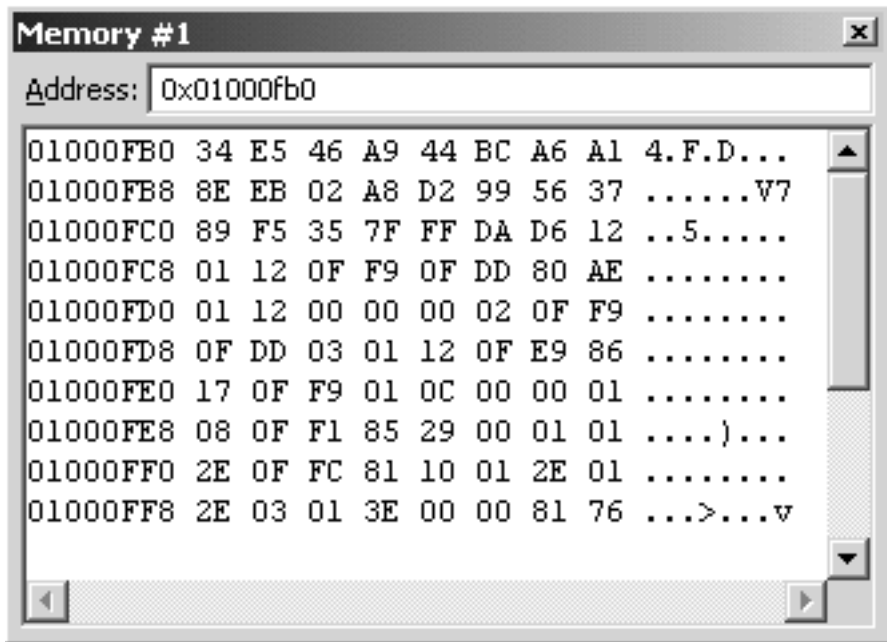

Figure 7-7 Memory Window
2. *Examine Memory*—click the address box in one of the Memory windows, and change it to 0x01000FB0. A Memory window presents a fixed display of 80 characters, and it will not display any characters if one of them is in a reserved section of the memory space. Because a reserved section starts at 0x01001000, the address 0x01000FF9 cannot be used to view memory. However, the reserved section can be avoided by entering 0x01000FB0 into the address box, as shown in Figure 7-7. The data at address 0x01000FF9 is 03 in the second data column on the last line.